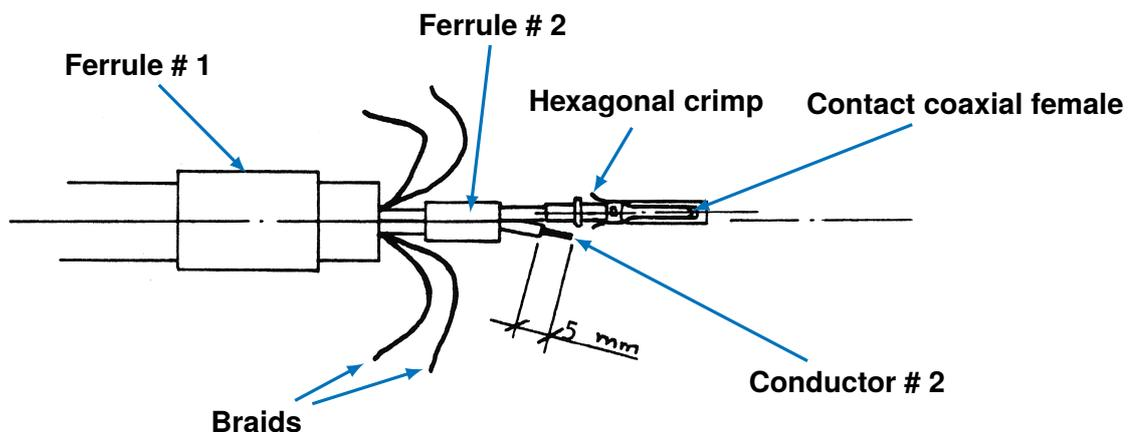

Figure 8: Conductor # 2 stripped
- Strip the conductor # 2 over a length of 5 mm (figure 8)